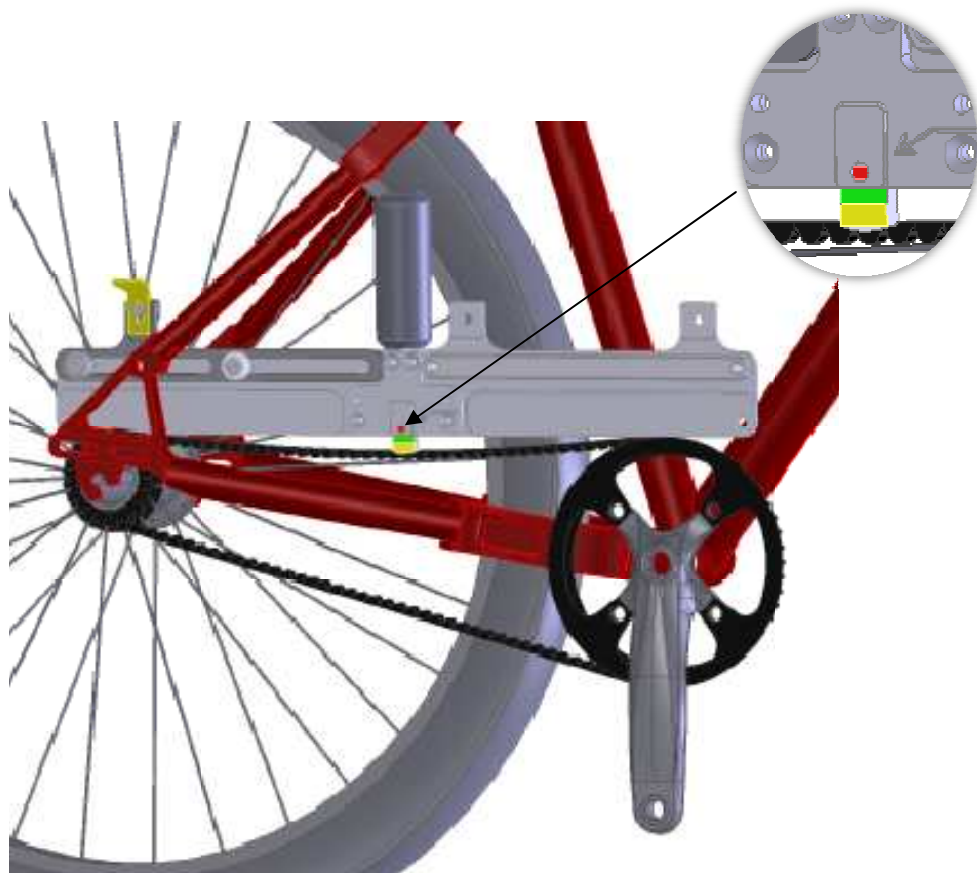

fig 11: Belt tension low. Red array is shown in the indicator opening
- The belt tension is too low (fig. 11). Please decrease the tension of the belt via the horizontal dropouts or the eccentric bottom bracket. Lack of belt tension can lead to so-called "ratcheting", which means that the belt will jump over the teeth of the rear pulley. Ratcheting can damage the carbon tensile cords.